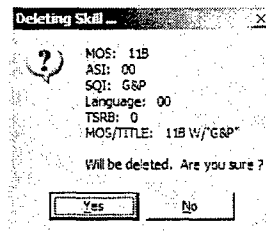

Figure 29. Confirm Skill Deletion
2. After you delete the skill, you will be asked to confirm your action (Figure 29). Click *No* if you have changed your mind or *Yes* to confirm the deletion.